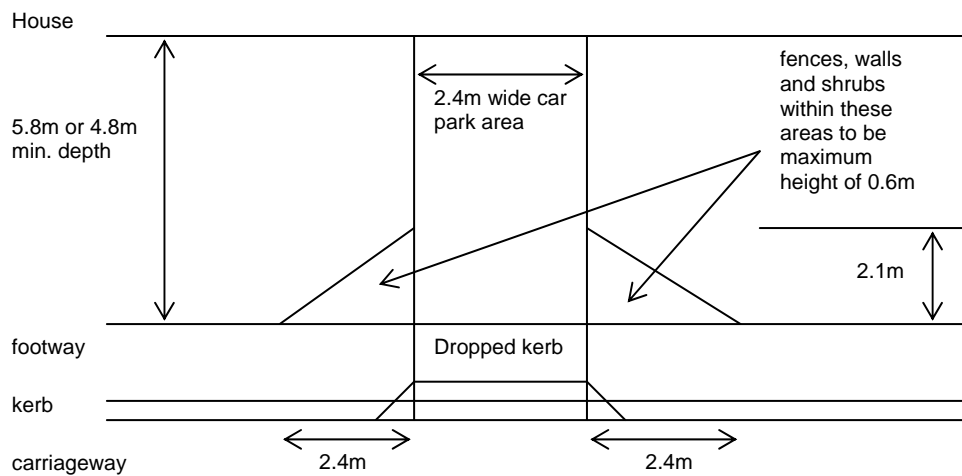

Fig. 6 Pedestrian Visibility Splay
- 15 Pedestrian visibility splays of 2.1m by 2.4m should be provided (refer to Fig. 6). In addition to this, vehicular splays should be provided in accordance with national recommendations.